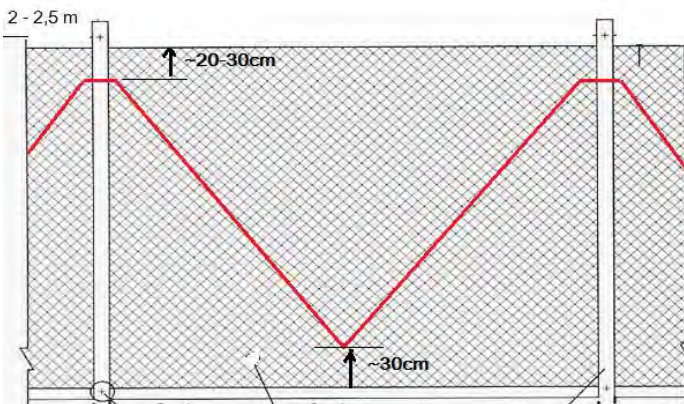

Fig.3 SENSITIVE ELEMENT LAYOUT ON FRAMELESS CHAIN-LINK FENCE
Frameless Chain-Link fence (Fig.3)
3. Frame made of angle sections being used, make sure the netting is stretched uniformly and fastened to the all sides of the frame. In addition be sure to lay the sensitive element along the upper angle section of the frame and the fence supports (Fig.3).